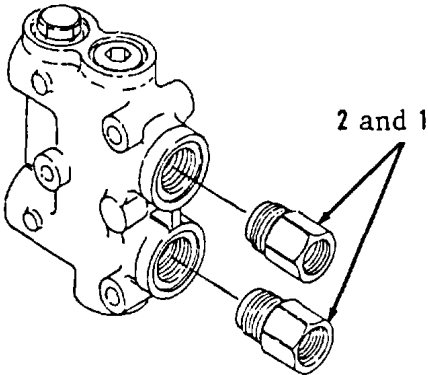

Figure 10-109.
- 12. Install two items 2 and 1 as an assembly (Figure 10-109). Tighten two adapters (1) to 55 ft-lb torque.